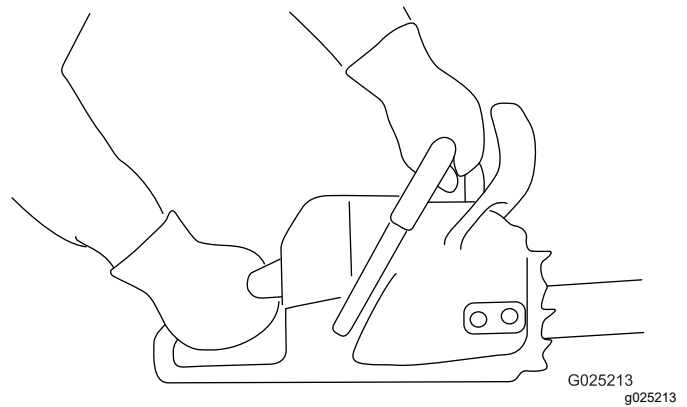

Figure 12
1. Grip the chain saw with 2 hands, with your left hand on the front handle and your right hand on the rear handle as shown in Figure 12.
1. Grip the chain saw as shown in Figure 12.
- Grip the chain saw as shown in (Figure 12).